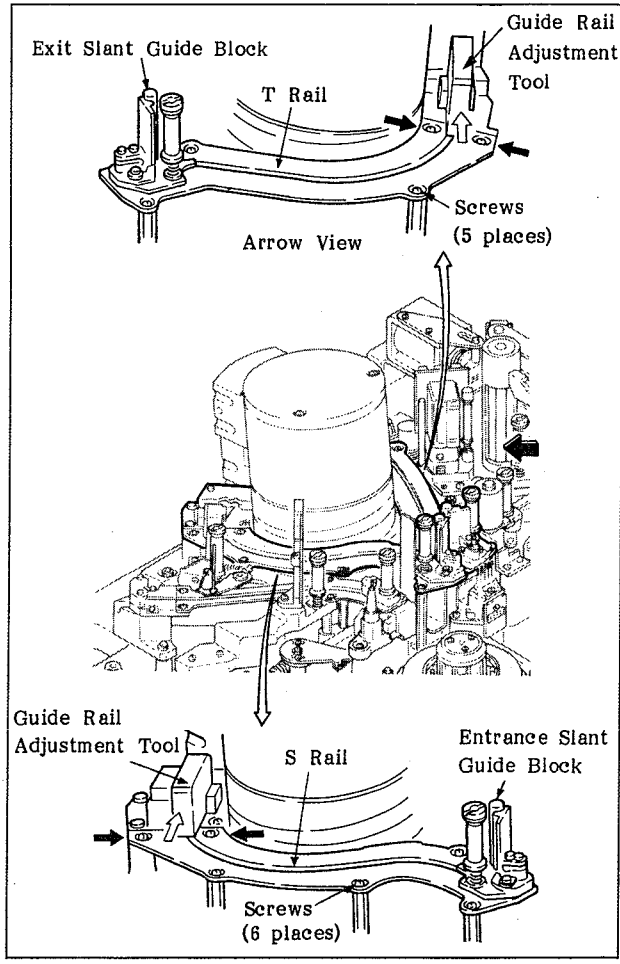

Fig. 6-62. Adjustment of the Position of the S/T Rails
- c. Place the guide rail adjustment tool in the position shown in Figure 6-62, and then push it in the direction of the white arrow.